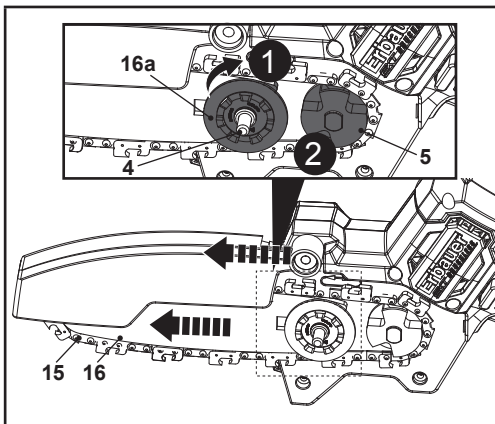

Fig. 5
6. Rotate the turning wheel (16a) clockwise to adjust the guide bar (16) towards the left to tighten the saw chain (15), (Fig. 5, steps 1, 2).